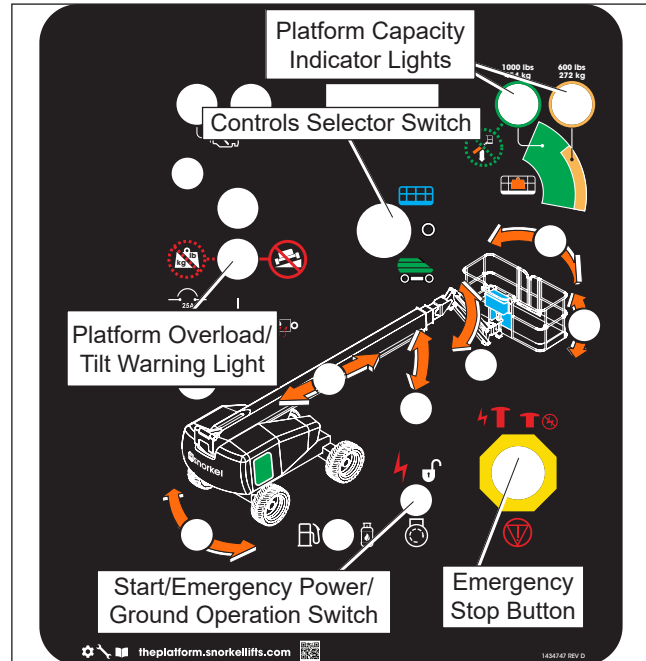

Figure 8.1 – Lower Controls
3. Pull the emergency stop button (refer to Figure 8.1) outward and place the control selector switch in the lower control position.
4. The start switch (refer to Figure 8.1) function works like an automobile ignition switch.
There are two indicator lights on the lower and upper control panels (refer to Figure 8.1 and 8.2) that indicate whether the platform is in the 600 lb or 1,000 lb region of the working envelope. Some boom control functions prevent positioning the boom into a restricted position. The dual platform capacity logic is shown in Figure 8.4.